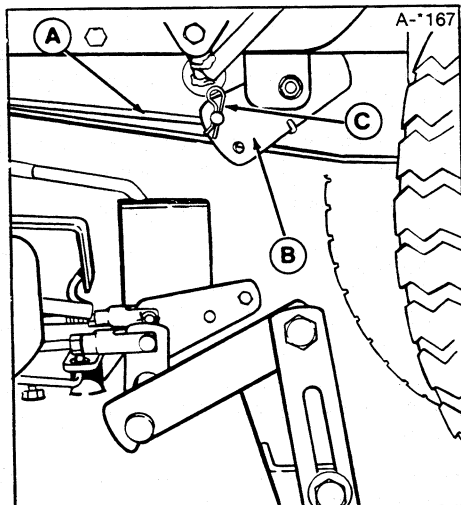

**Figure 5. Right-Hand Belt Stop - 42\"**
10. Slip the mower drive belt onto the engine PTO pulley loosening belt stops as necessary. The left-hand belt stop is shown in figure 3. The right-hand belt stop for 42" mowers is shown in figure 5. Position belt stops 1/16" from belt.